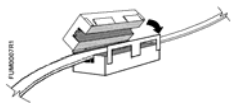

Figure 2. Ferrite Filter.
6. On sensors with voltage output signals (see Table 1), place the ferrite filter around the field wiring cable behind the sensor base plate towards the wall opening. Snap the ferrite filter closed (Figure 2).